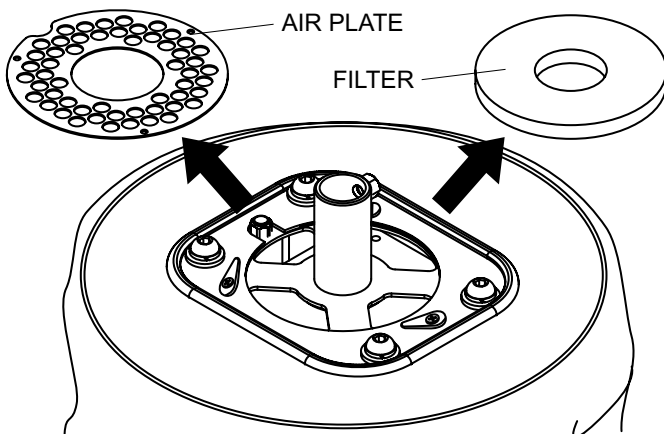

Figure 28. Filter Removal
4. Remove the air plate and filter. See Figure 28.